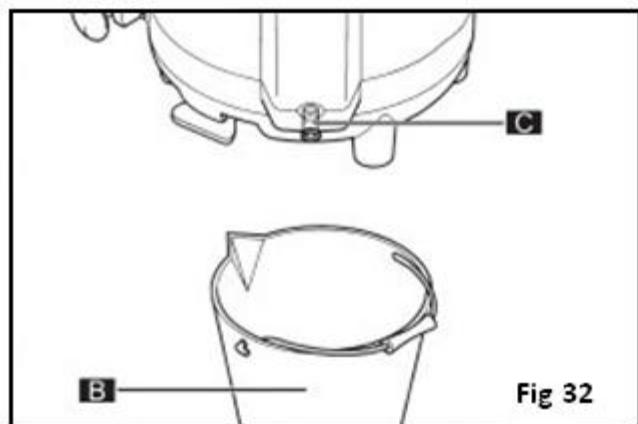

Fig 32
- Place a container (B) with a capacity of more than 3 litres underneath the bleeder cap (C)
- Use a coin or Allen wrench to unscrew the bleeder cap (C)
- Pull out the cap (C) with a firm movement and wait for all the water to empty out from the boiler tank (Fig 32)